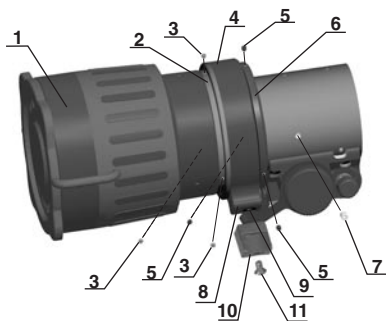

FIGURE 4-3. OBJECTIVE LENS FOCUSING
- Rotate the focus ring (Figure 4-3, 4) of the sight to achieve sharp image of collimator pattern.
- Check driving ring lug position (Figure 4-3, 8). The lug on the driving ring should be turn counterclockwise and a gap under the lug should be equal the thickness of your thumb.
- If the lug position is different, unscrew the screw (Figure 4-3, 11) and remove the extender focus knob (Figure 4-3, 10). Loose the fixing screw (Figure 4-3, 9) in the lug and rotate the driving ring to the right position. Tighten the fixing screw. Do not over tight it avoiding irregular rotation of the focus ring. Install the lever to the place.
- Loosen three fixing screws (Figure 4-3, 5).
- Unscrew the lock ring (Figure 4-3, 6) and move it towards the battery compartment.
- Rotate the focus ring (Figure 4-3, 4) counterclockwise to open the objective thrust ring (Figure 4-3, 2). Not allow to fall the threaded segments out.
- Loosen three fixing screws (Figure 4-3, 3).
- Move the focus ring (Figure 4-3, 4) towards the objective lens.
- Rotate the objective lens (Figure 4-3, 1) and the thrust ring (Figure 4-3, 2) together to achieve sharp image of collimator pattern.
- Rotate the thrust ring (Figure 4-3, 2) $\frac{1}{4}$ of turn counterclockwise and tighten fixing screws (Figure 4-3, 3) lightly.
- Unscrew fixing screws (Figure 4-3, 3) one by one, drill dimples through the holes in the ring, apply small amount of thread locker and secure the thrust ring with fixing screws.
- Rotate the focus ring (Figure 4-3, 4) clockwise up to the stop.
- Screw the lock ring (Figure 4-3, 6).
- Tight the lock ring (Figure 4-3, 6) lightly.
- Unscrew fixing screws (Figure 4-3, 6) one by one, drill dimples through the holes in the ring, apply small amount of thread locker and secure the lock ring with fixing screws.
- Screw the objective lens (Figure 4-3, 1) up to the stop.
- Put the sight onto the mounting rail, switch it on and rotate focus ring (Figure 4-3, 4) to achieve sharp image.
- Remove the purge screw (Figure 4-3, 7).